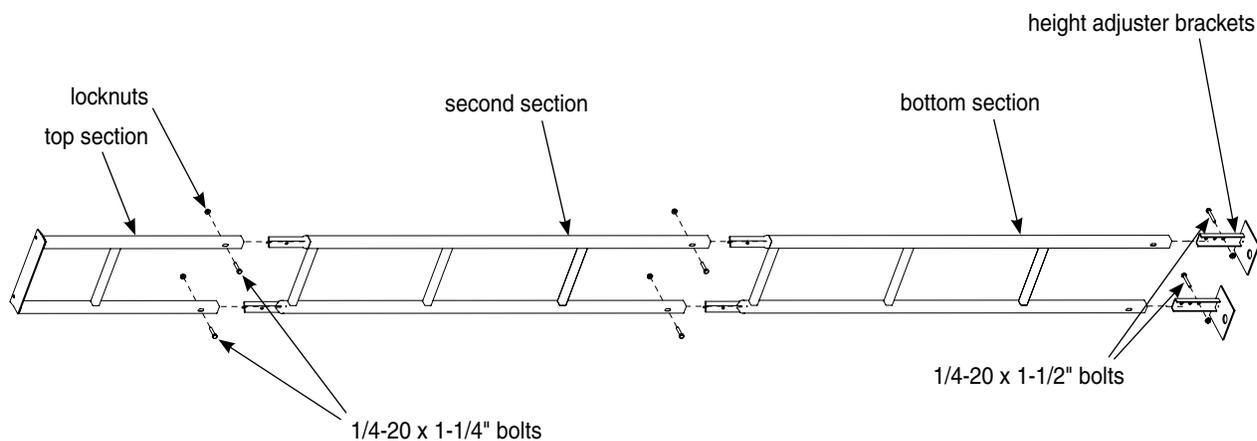

FIGURE 13
20. Assemble the (3) ladder sections on the ground in the following order: bottom section (AL1 ladder); second section (AL3 ladder); top section (TWR21 ladder). **SEE FIGURE 13.**
21. With all ladder sections assembled together on ground, secure all sections together using (4) provided 1/4-20 x 1-1/4" bolts and locknuts. **SEE FIGURE 13.**
22. Attach the (2) height adjuster feet (TWR41) to the bottom ladder section using (2) provided 1/4-20 x 1-1/2" bolts and lock nuts. **SEE FIGURE 13.** Adjustment in height may be needed when tower is uprighted later in instructions.